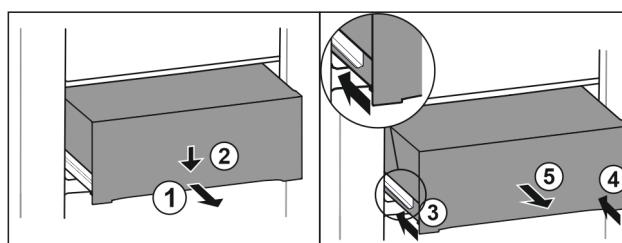

Fig. 105
- Pull out drawer half-way. Fig. 105 (1)
- Push the drawer down at the front. Fig. 105 (2)
- Push the left rail in by about 2 cm. Fig. 105 (3)
- Push the right rail in by about 2 cm. Fig. 105 (4)
- Remove drawer to the front. Fig. 105 (5)